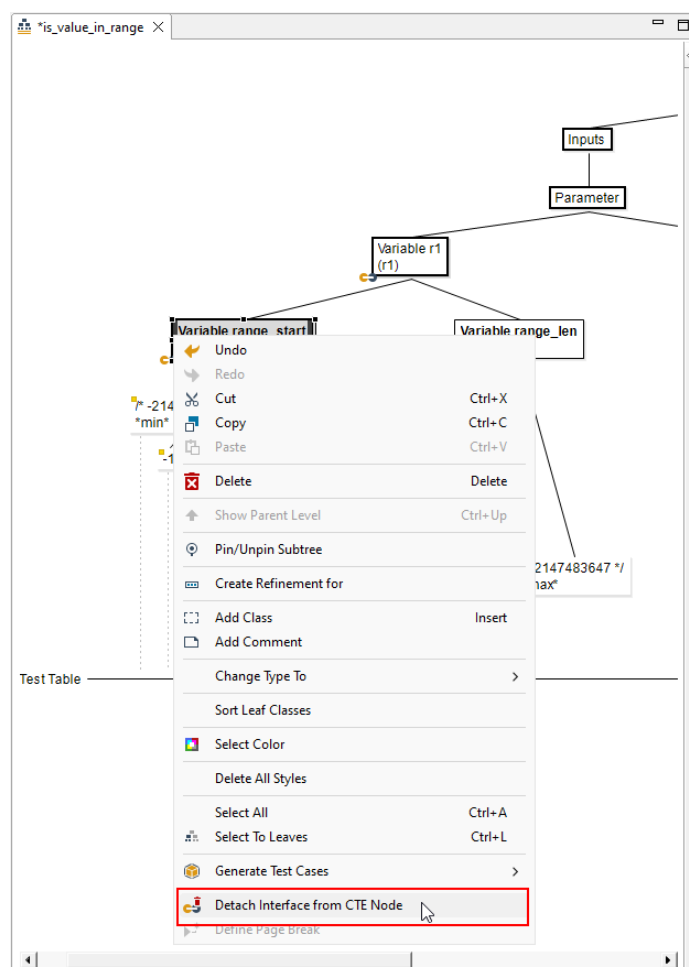

Figure 6.188: Detach the interface from an CTE note
- Detach the interface from its classification node in the context menu of the respective node in the CTE by clicking the menu entry "Detach Interface from CTE Node" (see figure 6.188).